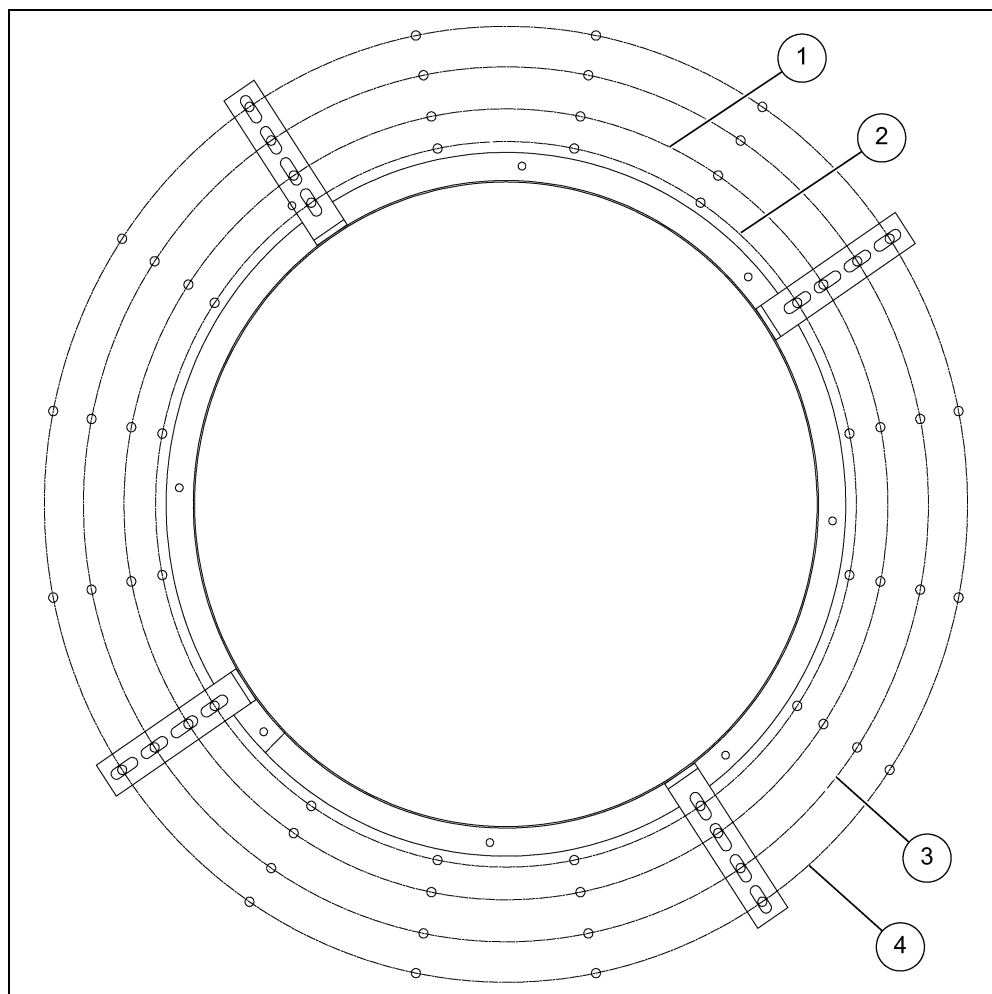

Figure 5A Heater Mounting Brackets Illustration
1. Install three mounting brackets on fan as indicated by the arrows as shown in Figure 5A. Install loosely.